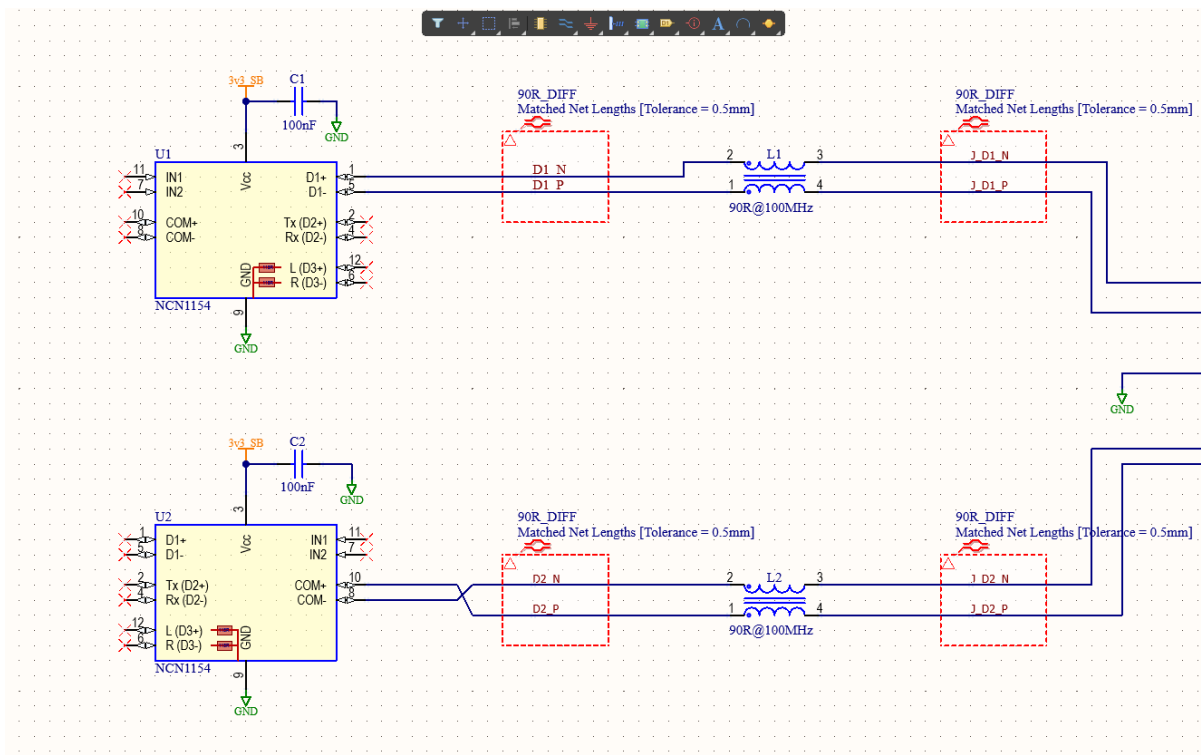

Figure 9. Copied Directives
12. Copy the Blanket together with the directives and place them over the remaining differential signal, as shown in Figure 9